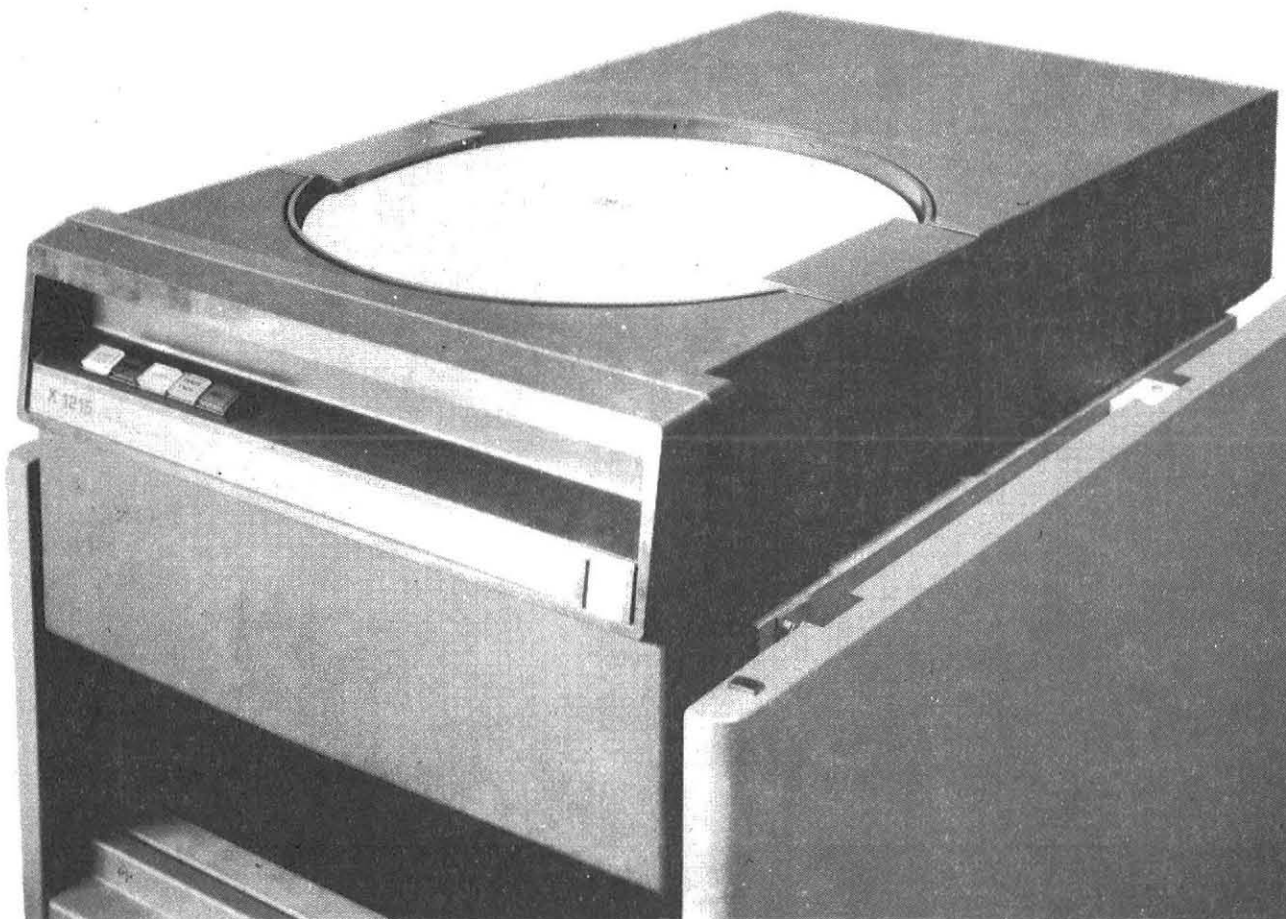

Fig. 1-1 CARTRIDGE DISC DRIVE UNIT
1.1 GENERAL DESCRIPTION. (figure 1-1, 1-2)